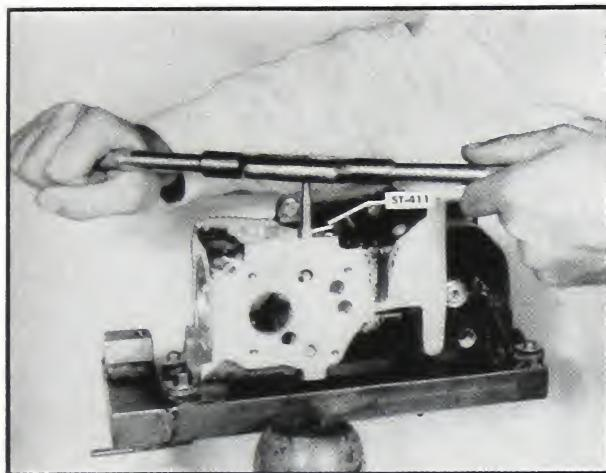
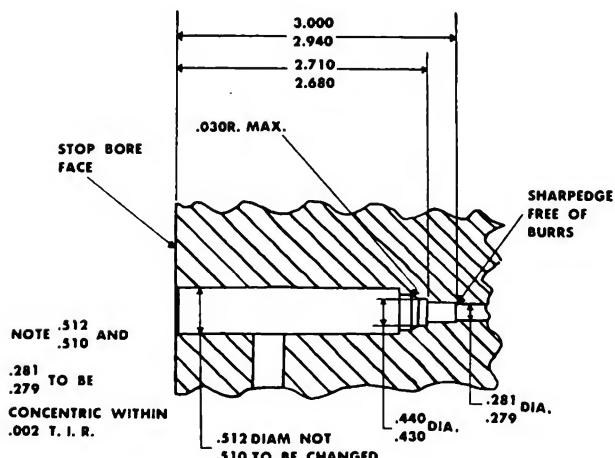

Fig. 5-247. Using ST-411
Fig. 5-248. Reworking dimensions to change pumps to latest automatic stop
2. If valve does not seat, use ST-411 and take a very light cut. Fig. 5-247.
Two different automatic stops have been used on the DD Fuel Pump. If the pump has the old-style stop and it needs repair it must be replaced with the new style stop as described in following paragraphs. The new stop used in DD Fuel Pumps after Serial No. 17000 can be adapted to older pumps by reworking the stop bore with ST-411, see Fig. 5-247. The reworking dimensions are shown in Fig. 5-248. The following repair instructions apply to the latest stop.